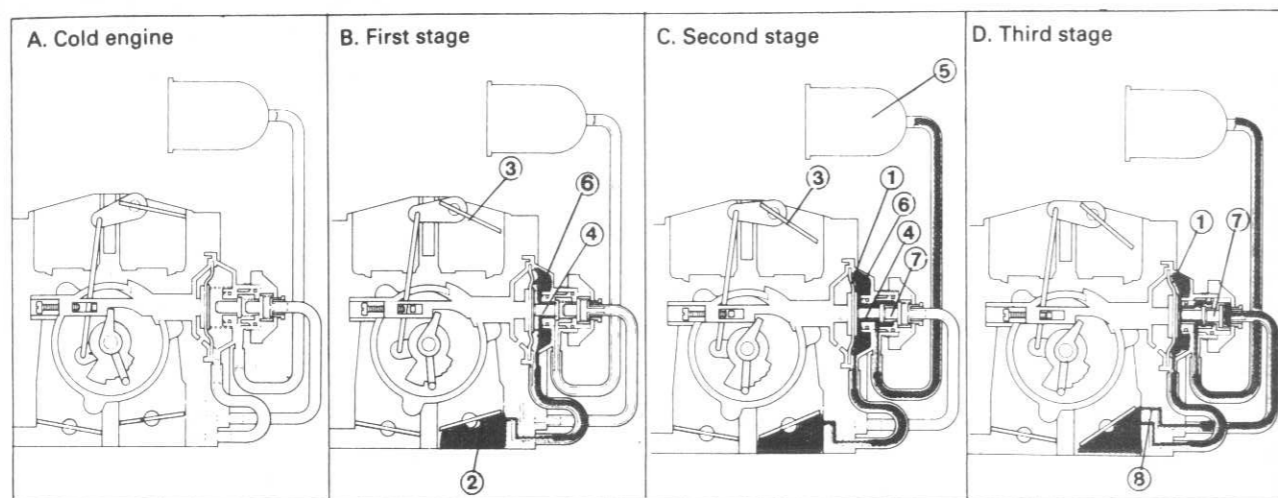

Fig. 13.10 Operation of automatic choke vacuum unit - 2B7 carburettor (Sec 7)
- 11 The operation of the automatic choke vacuum unit is also slightly different on this carburettor: it takes place in three stages instead of the previous two. For details see Fig. 13.10.